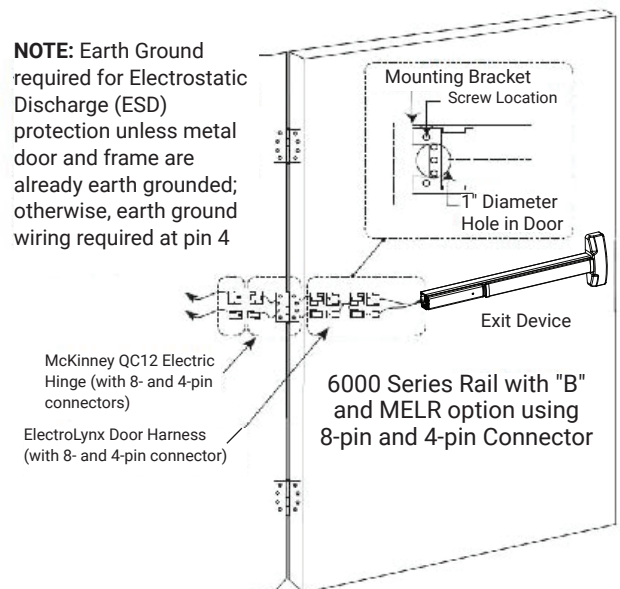

Figure 16 - Timer Mode Installation
3. Connect the ElectroLynx harness in the door (Figure 16).
5. Feed the 3" harness through the 1" hole in the door and secure the pushbar to the door using the mounting bracket and two (2) supplied screws.